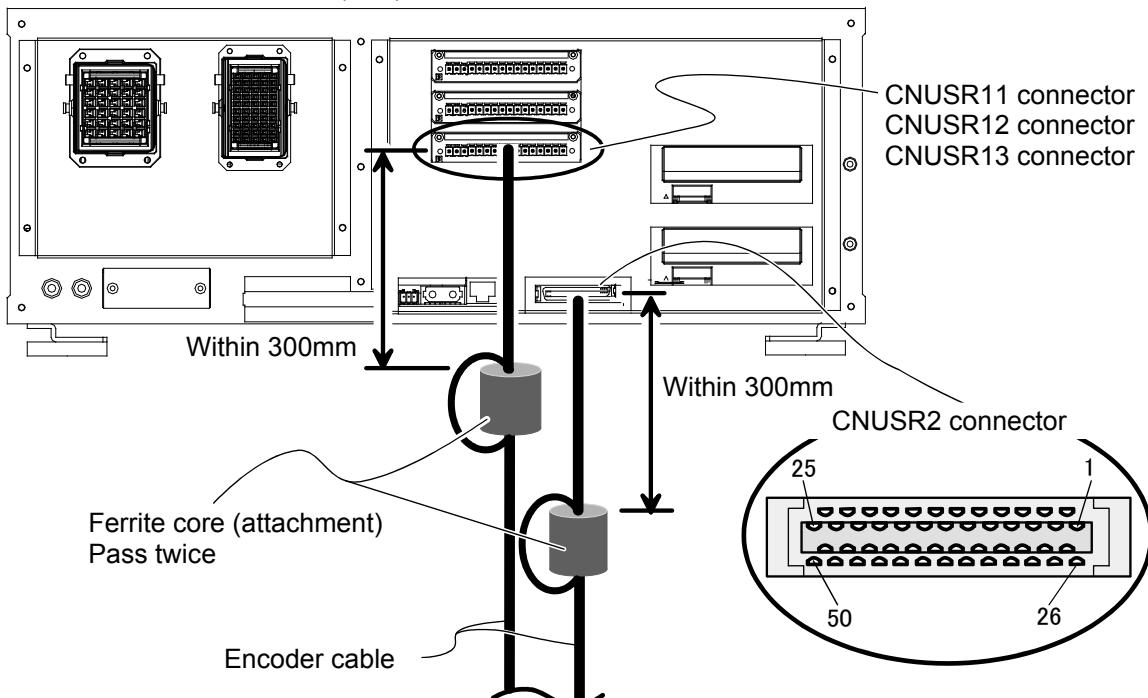

Figure 5-8 Installation of encoder cable (CR750-D series)
*CR750-D series: "Figure 5-8 Installation of encoder cable (CR750-D series)"